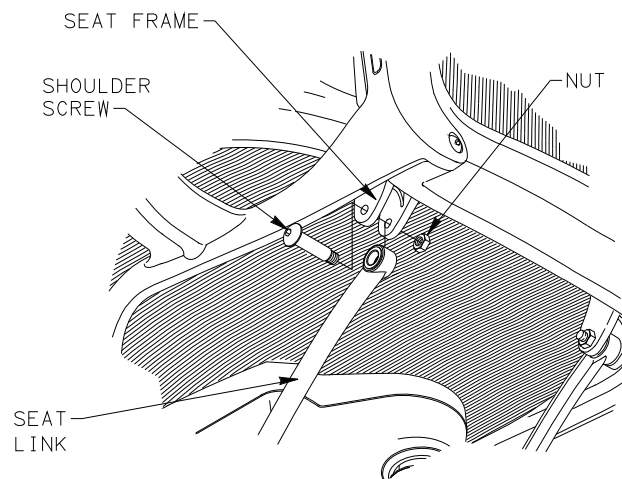

FIGURE 1
5. ATTACH SEAT LINK TO SEAT FRAME WITH SCREW AND NUT. TIGHTEN NUT UNTIL FLUSH WITH END OF SCREW. REPEAT FOR OPPOSITE SIDE. NOTE: FOR OLDER CHAIRS, MAKE CERTAIN SPACER AND ALL BUSHINGS ARE ACCOUNTED FOR AND BUSHINGS ARE ORIENTED TO NOTCH IN SEAT LINK. WHILE HOLDING BUSHINGS IN SEAT LINK, ATTACH SEAT LINK TO SEAT FRAME WITH SCREW, SPACER AND NUT. REPEAT FOR OPPOSITE SIDE. SEE FIGURES 1 AND 2.